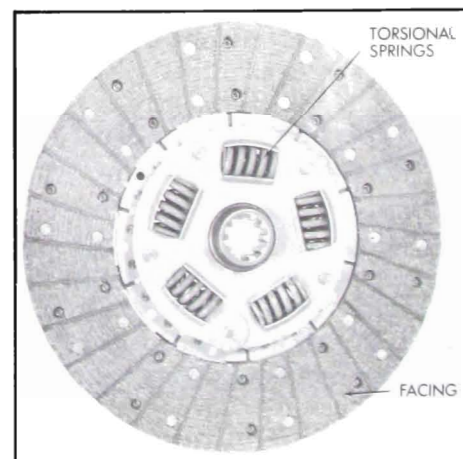

Figure 4-8—Driven Plate - Transmission Side
is riveted to each side of every segment of the plate. When the clutch is fully released, the waved segments cause the facings to spread approximately .045" and the movement of pressure plate provides an additional clearance of approximately .030" to assure full release of driven plate. See Figure 4-8.
3. Clutch Driven Plate. Inspect driven plate for condition of facings, loose rivets, broken or very loose torsional springs, and flattened cushion springs. See Figure 4-8.